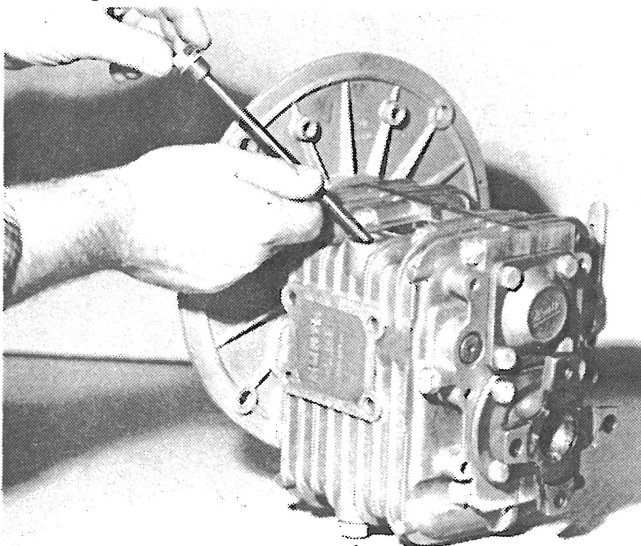

Figure 21 - Checking oil level, Hurth gear
3. Check the oil level in the reverse gear (figures 21 and 22). Use the dipstick provided to check the oil in the reverse gear. The level in the Hurth and Borg Warner reverse gears should be checked with the engine switched off.